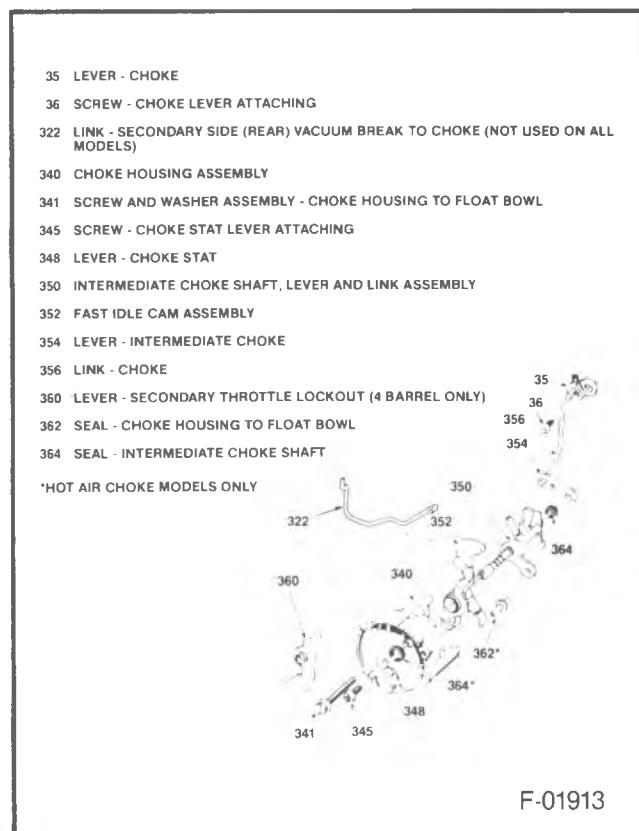

Figure 24 -- Choke Housing Assembly
- Remove or Disconnect (Figure 24)
1. Choke housing to float bowl screw and washer assembly (341).
2. Choke housing assembly (340).
- Secondary throttle lockout lever (360).
- Intermediate choke lever (354).
- Intermediate choke shaft seal (364), from float bowl.
- Disassemble (Figure 24)
1. Remove choke stat lever attaching screw (345).
2. Choke stat lever (348).
3. Intermediate choke shaft, lever and link assembly (350).
4. Fast idle cam assembly (352).